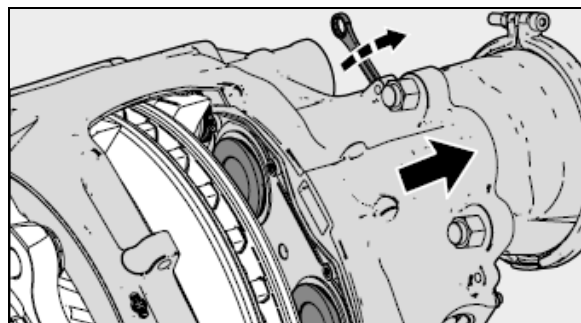

FIGURE 90: REWIND TAPPETS COMPLETELY AND PUSH CALIPER IN DIRECTION OF MIDDLE OF VIEW
4. Fully wind back the tappets (13) using a ring spanner and shear adapter (61) (see Figure 90).
5. Push caliper inboard towards vehicle's center (see Figure 90).